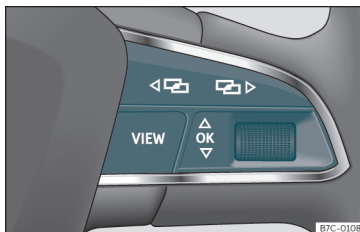

Fig. 105 Right side of multifunction steering wheel: buttons to the menus and informative indications on the instrument panel.
As long as a priority 1 >>> page 100 warning is active, it will not be possible to access any menu. Some warnings can be confirmed and hidden with the button  of the multifunction steering wheel >>> **Fig. 105**.
- If a message or vehicle symbol is displayed, press the button  >>> **Fig. 105**; if necessary, several times.
- To change menus, use buttons  or  >>> **Fig. 105**.
- To open the menu or the information displayed, press the button  >>> **Fig. 105** or
- In the menu displayed, turn the right thumbwheel of the multifunction steering wheel >>> **Fig. 105** until the desired option of the menu is highlighted. The option appears framed.
- Press the button  >>> **Fig. 105** to make the required modifications. A mark indicates that the system or function is activated.
Press the button  or  >>> **Fig. 105**.